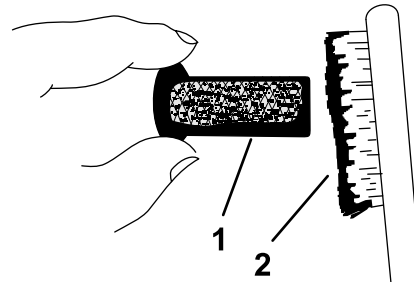

Figure 51
9. Use a brush to carefully remove carbon deposits from the spark-arrester screen (Figure 51).